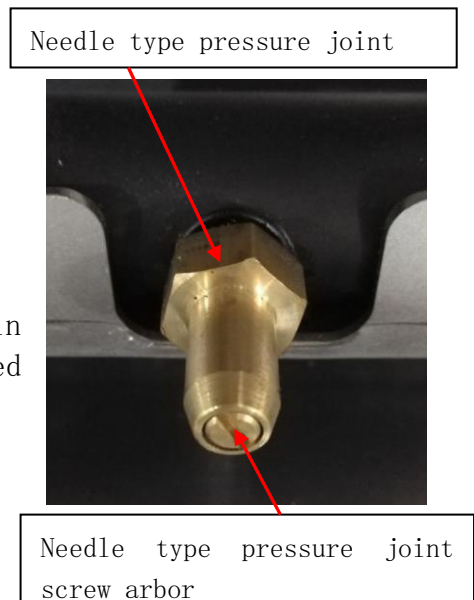

Fig.1
- Remove panel, and needle type pressure joint screw arbor (Fig.1), then slip rubber tube of pressure gauge over needle type pressure joint;